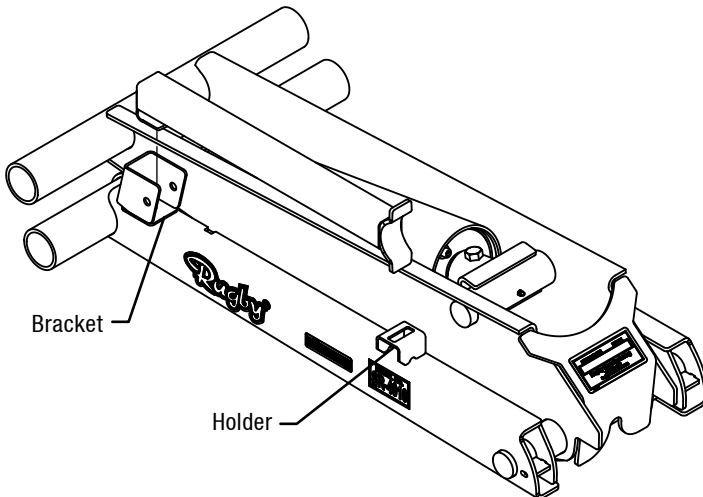

Figure 2: Body Prop Installation Location
1. Insert the body prop into the body prop bracket (Figure 2).